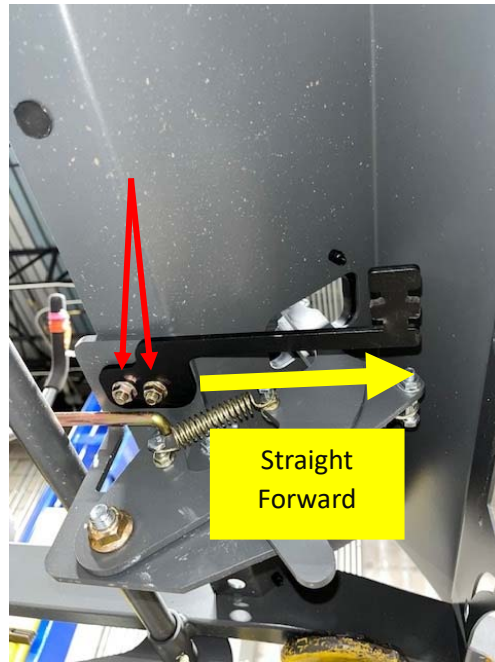

Figure 5
8. Install the Fair-Rite bracket using the two new, 5/16"-18 X 1" carriage bolts and original serrated nuts. Torque to 17 lbs. (Figure 5)